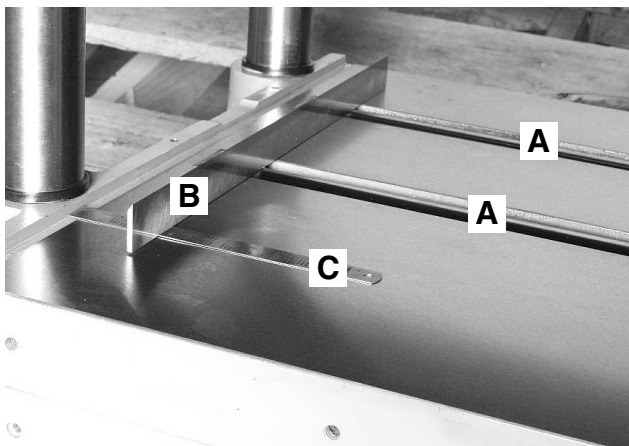

Fig. 15
The table rollers Fig. 15 (A) & Fig. 16 (A) are located on the bed of the planer, and are designed to reduce friction as material passes over the table. They are presently set for general purpose planing and are parallel to the table. If you need to adjust them, higher is better for rough sawn stock, and lower, for finished stock, lay a straight edge Fig. 15 (B) across both rollers with a spacer Fig. 15 (C) the height you want the rollers set. The adjustment screws Fig. 16 (D) are eccentric so take care the rollers remain parallel to the table and each other. One side of the planer, the screws turn clockwise to raise or lower the rollers and on the other side they turn anticlockwise to do the same.